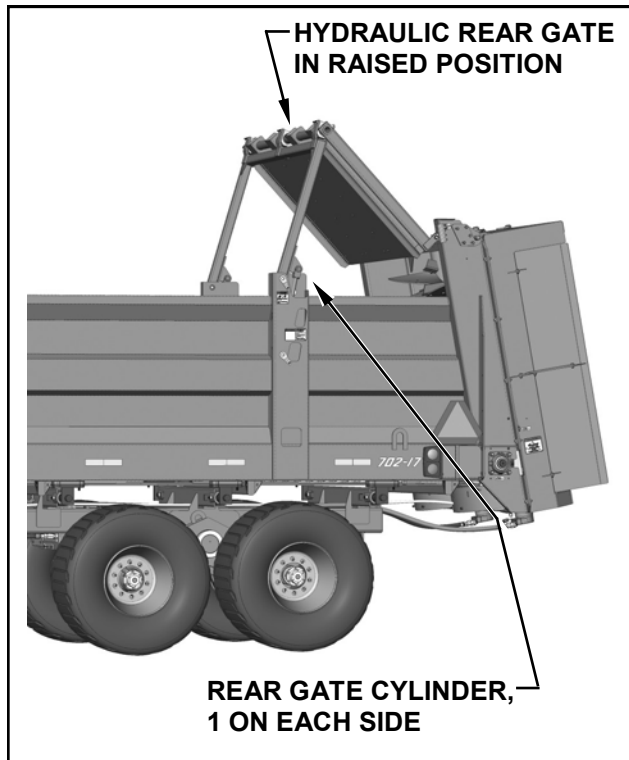

FIGURE 5. HYDRAULIC REAR GATE AND SLIDING GATE
2. Raise the hydraulic rear gate completely up. See figure 5.